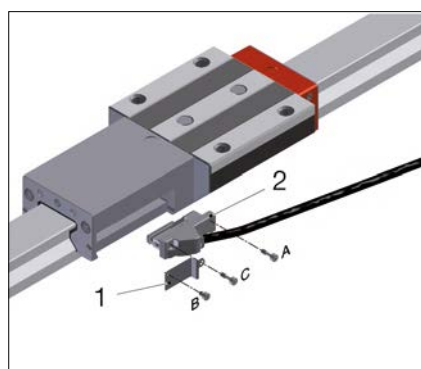

Fig.33
4. Swivel the distance reference cover plate (1) for mounting.
5. Slide the read head (2) towards the carriage until it stops and hold it down (see Figure). This ensures that the measuring system automatically recognises its absolute position during installation and is ready to use immediately afterwards. Once the controller is switched on, the LED will light up green.
6. Swing the distance reference cover plate (1) to the designated position and hold it down.
7. The sensor unit is delivered with self-locking screws. Tighten these in accordance with the torque values (see „6.5.2 Installing and connecting the read head“ on page 23). Tighten the screws in the following order: A, B, C (Fig. 33).